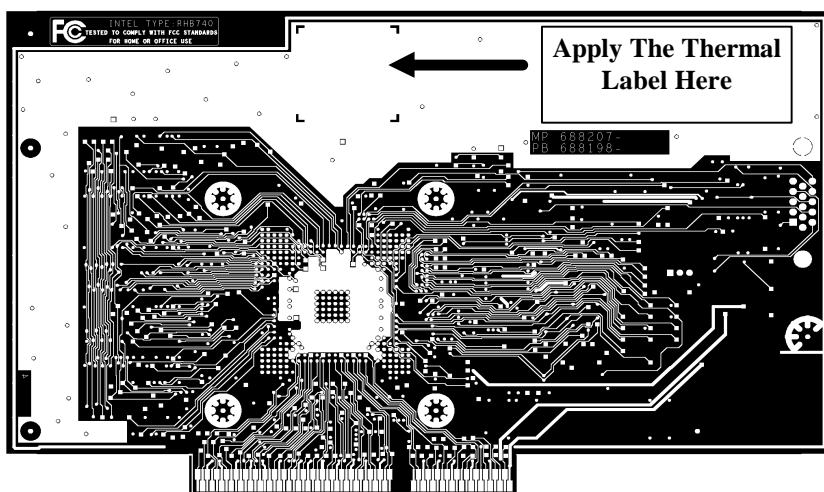

Figure 5: Backside of Intel Express 3D Graphics Card (8MB Version)
As it was discussed in the previous section, in the case of Intel740™ accelerator, the circuit board is a heatsink. In order to improve the heat dissipation throughout the graphics card, the height of the card was increased by 1 inch/2.6 cm to the full height allowed by the ATX form factor. This change, in addition to the thicker copper, creates an excellent heatsink for Intel740™ accelerator. Figure 5 shows the area around the component in white where heat dissipates into. Additionally, the taller card catches more air it travels above the add-in card in a given chassis.
- 1) Apply the thermal indicator label to the back side of the 8MB card in it’s designated location, as is shown in Figure 5.